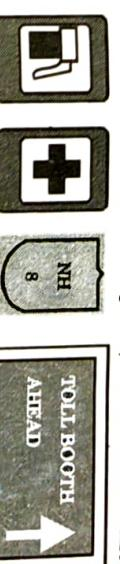

Fig. 3.15.3. Examples of informative signs.
4. Fig. 3.15.3 shows examples for informative signs which include route markers, destination signs, mile posts, service centre information, etc.